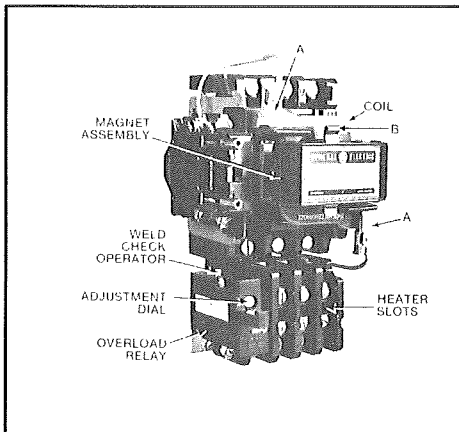

Figure 1. Typical 300-Line magnetic starter.
2. Press against coil while pulling up slightly on coil retainers, (A—Fig. 1) and move retainers away from coil.
4. Withdraw spring clip (B—Fig. 1) and remove armature from movable arm.
5. The ultimate tripping current of the installed relay heater can be adjusted $\pm 10\%$ by using adjustment dial shown in Figure 1.